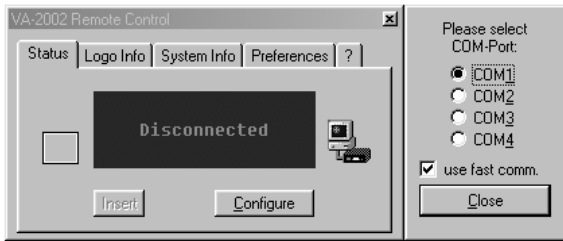

Figure 19: COM-Port Window
3. Click Configure and then select an active serial port (COM 1 - COM 4) from the COM-Port window that opens adjacent to the Remote Control window, as Figure 19 illustrates: